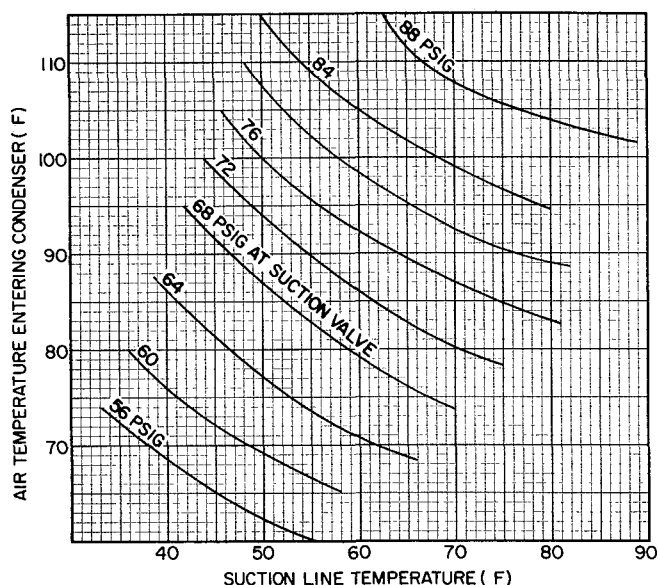

Fig. 6 – 38SE Charging Chart
38SE CAPILLARY TUBE OR ACCURATER™ SYSTEMS – Use Charging Chart, Fig. 6, and the following procedure:
5. Refer to Charging Chart (Fig. 6). Find condenser air temperature and project horizontally to curve showing suction pressure.